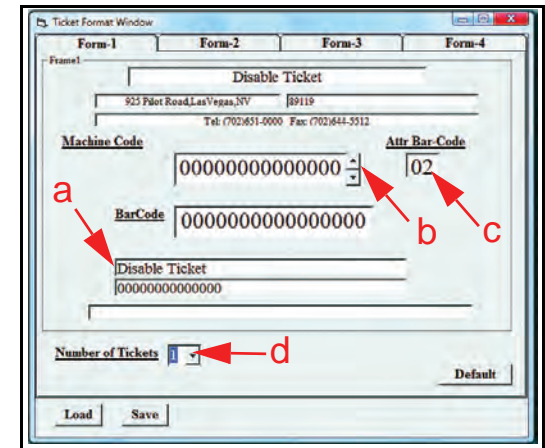

Figure 12 Form-1 Enable Ticket Screen
1. Enter "DISABLE TICKET" In the "FORM-1" Screen's Ticket Name Window (See Figure 12 a).
2. Enter fourteen (14) Zeros (i.e., 00000000000000) in the Machine Code Window (See Figure 12 b).
3. Enter "02" in the Attr-Bar Code Field Window (See Figure 12 c).
4. Select the desired number of tickets from the Number of Tickets pull-down menu or Enter the number of tickets desired in the window (See Figure 12 d) and